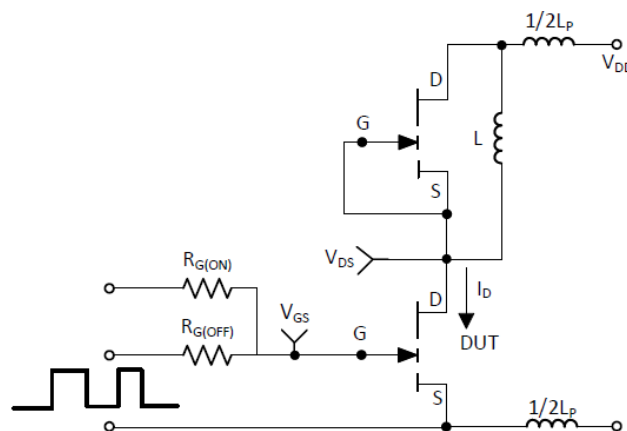

Figure 18: Switching Loss Test Circuit
(7) L_P = parasitic inductance
(8) See Figure 18 for switching test circuit